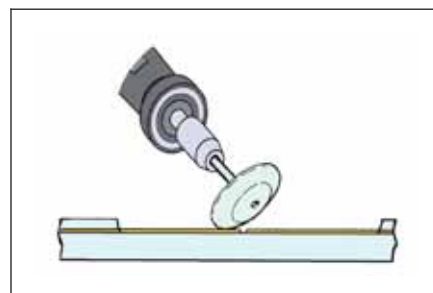

Figure 3 Adhesive removal.
- In many instances an adhesive will be coated onto the conductors. This must also be removed from the area where the replacement conductor is going to overlap the original conductor. The adhesive can be removed using light abrasion such as an ink eraser or rotary bristle brush or abrasive wheel. (See Figure 3.)